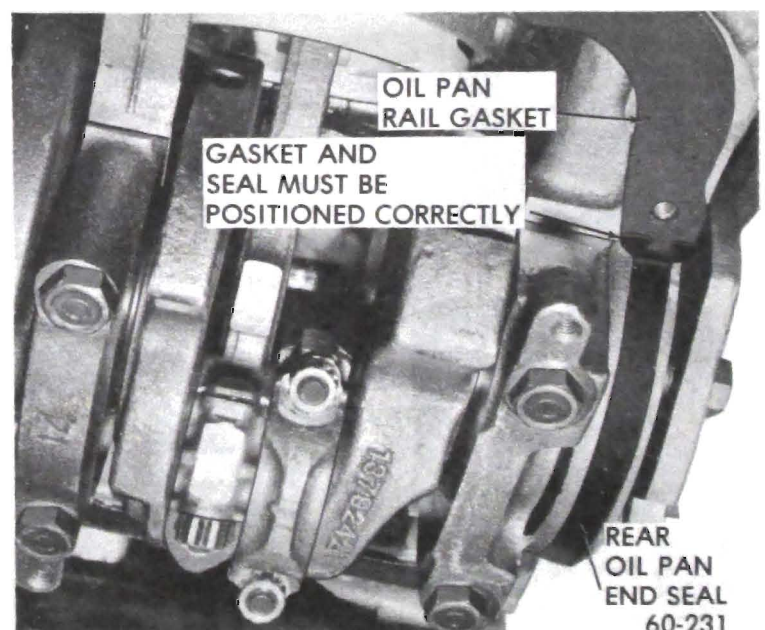

Figure 60-30 - Oil Pan Gasket and Seal Installation
3. Apply non-hardening Permatex to a few spots on a new pan gasket (cork) and install on block. *Make sure seal and gasket are properly fitted.* See Figure 60-30. (455 cu.in. only).